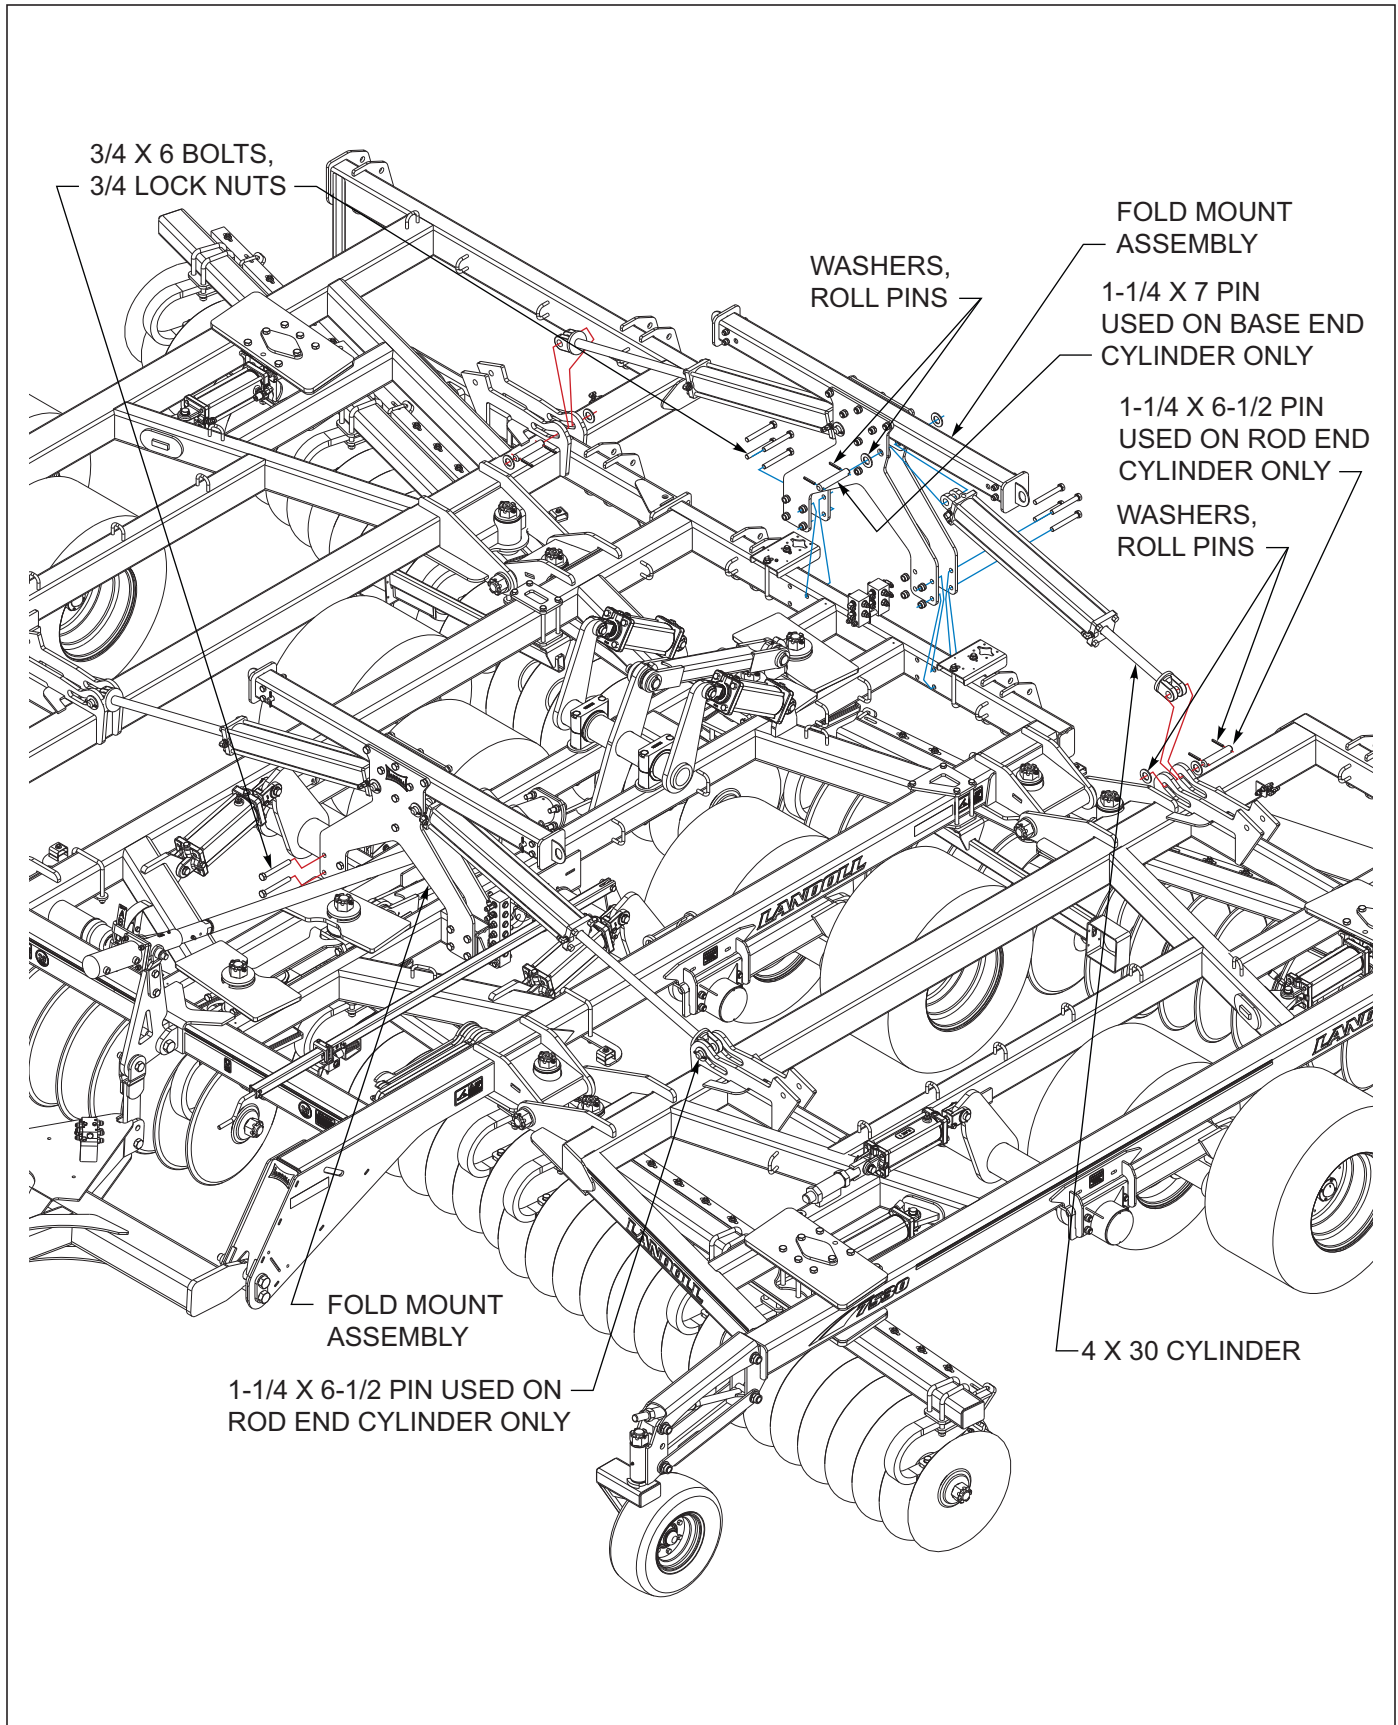

Figure 3-6: Fold Assembly Installation
7. Attach the base end of the 4 x 30 fold cylinders to the fold cylinder mounts on the center frame with 1-1/4 x 7" pins, washers and roll pins provided **(See Figure 3-6.)** There will be two plates inside of the large towers that need to be on each side of the cylinder base. All cylinders are mounted with the hydraulic ports facing the front. The fold cylinders come with the fittings supplied already installed and should have a regular 90 degree fitting on the base end and a black 90 degree restricted fitting on the rod end.
Rod ends of fold cylinders need to be left unassembled and propped up until fold hydraulic system is fully charged with oil to prevent machine damage when folding the first time. When fold cylinders are charged attach the rod end of cylinders to wing frames using 1-1/4 x 6-1/2 pins, washers and roll pins (See Figure 3-6.**)**